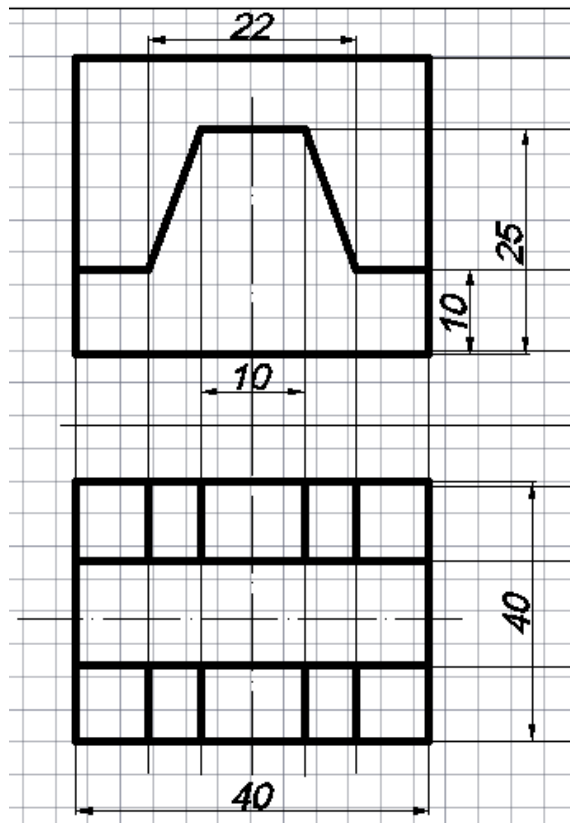

Figure 5.4 –Drawing a top view
5.2.5 Next let's build a top view. To do this, to begin with, draw all the auxiliary lines from the main points of the top view. Let us define which lines are auxiliary and which are main. Let's put down the appropriate dimensions (figure 5.4).